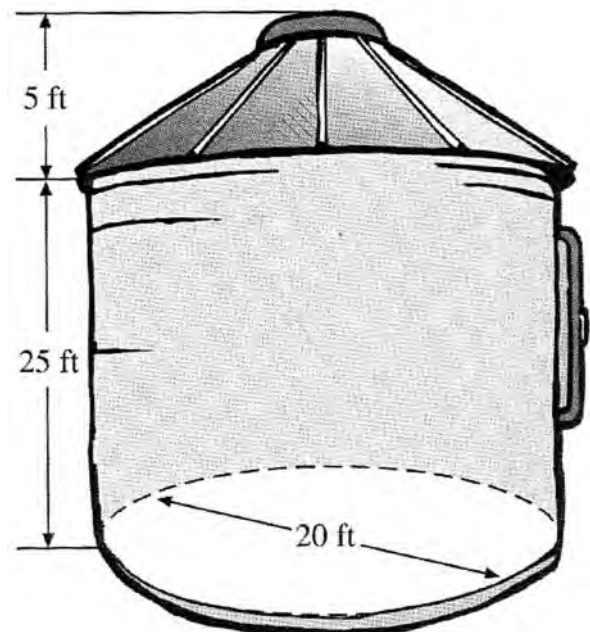

Figure 6
**Example 1:** Figure 6 shows a basic grain bin. The height of the cylindrical part of the bin is 25 feet. The diameter of the circular base of the bin is 20 feet. The height of the cone-shaped cap is 5 feet. With these dimensions, calculate the total volume (cubic content) inside the bin.